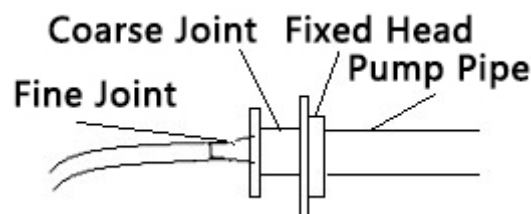

Figure 4
5. According to the Figure 4 connect pump pipe